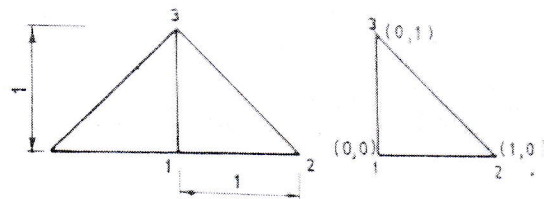

Figure 5
6. A solid element in the form of a right circular cone is under the action of self weight along its axis. It is proposed to be analysed by using single axi-symmetric ring element of triangular cross section (figure 5). Determine the shape functions for the element. [15]